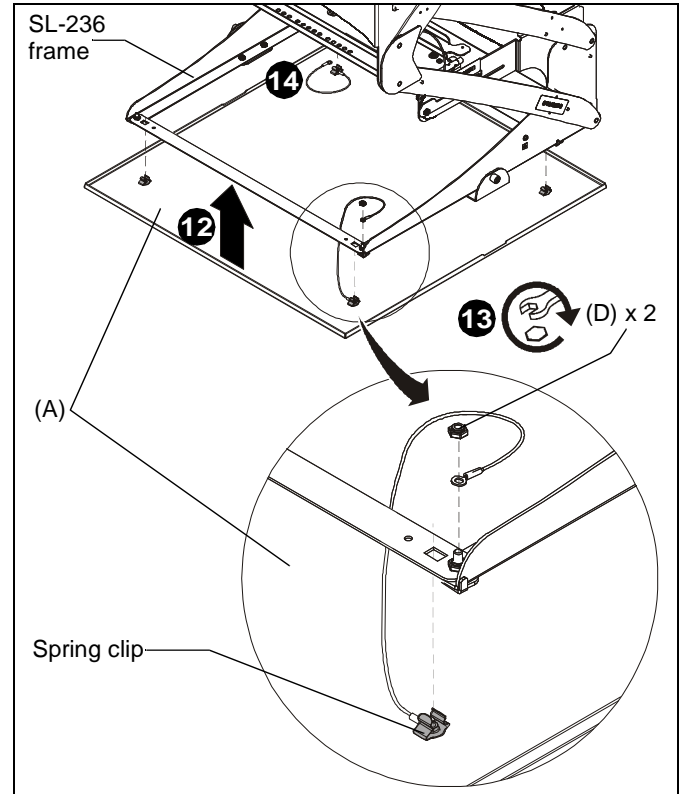

Figure 6
12. Raise bottom panel assembly (A) up to SL-236 and insert spring clips into rectangular holes on SL-236 frame. (See Figure 6)
13. In corner with cable, install cable onto SL-236 frame and fasten with 10-24 nut (D). (See Figure 6)
14. Repeat in opposite corner of ceiling panel. (See Figure 6)